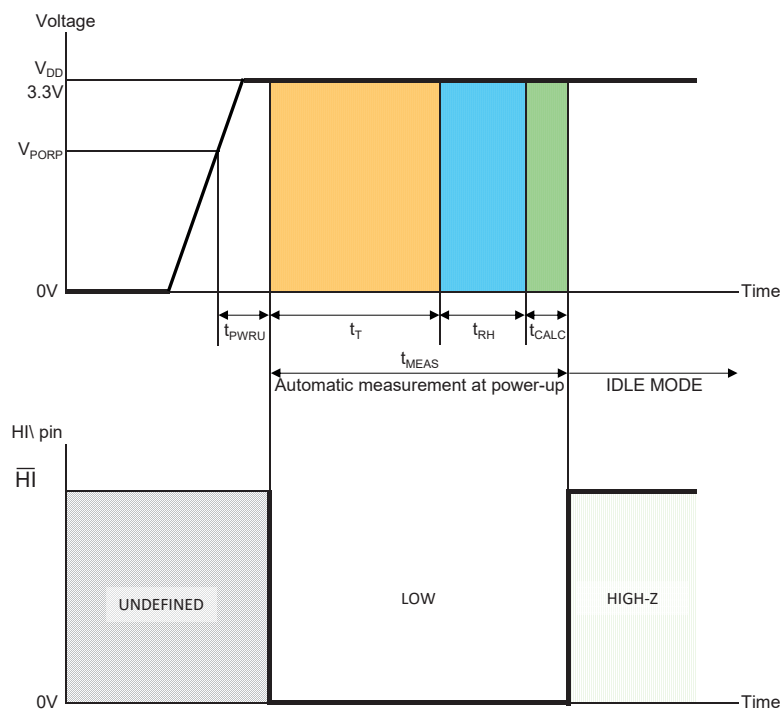

Figure 7: Sensor behaviour at power-up
- During power up until the start-up measurement and calculation is finished (please refer to Figure 7 in chapter 5.2.)